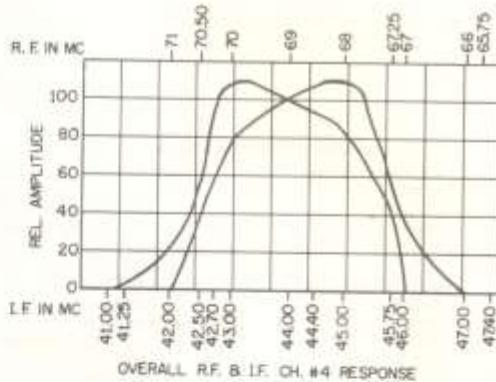

Figure 2. Overall R-F I-F Response Curve, Channel 4
2. Inject channel 4 sweep signal (69 mc, with 6 mc sweep width) into antenna. If necessary, adjust the following cores to bring the curve within limits (see Overall R-F - J-F Response Curve Fig. 2). Do not change settings of VC2, VC3 or VC4.